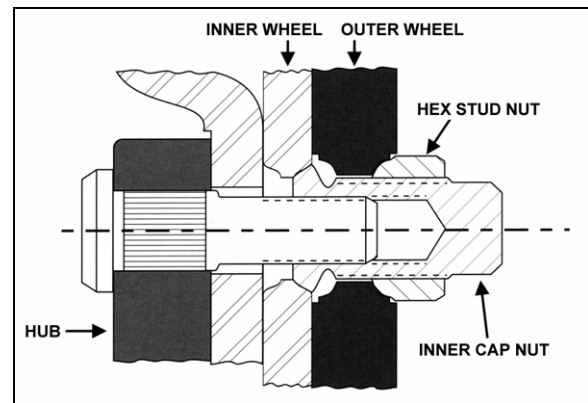

FIGURE 4: STUD-MOUNTED WHEELS
With inner wheel installed, tighten the hex stud nuts (Fig. 4) using the single wheel installation procedure described previously.
1. Loosen a hex stud nut three turns (Fig. 4);